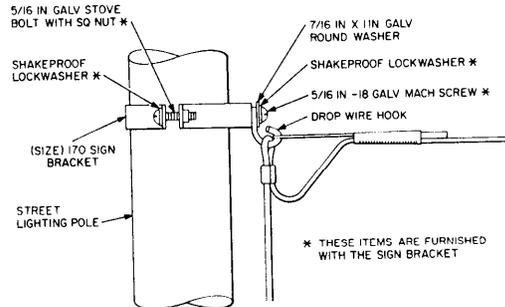

Fig. 9 - Attachment to Type 170 Sign Bracket
- 6.02 Attach drop wire to metal street lighting, traffic signaling, or trolley pole by means of a drop wire hook fastened to a type 170 or 188 sign bracket as illustrated in Fig. 9 and 10. The diameter of the pole determines the type of sign bracket to be used, as follows: